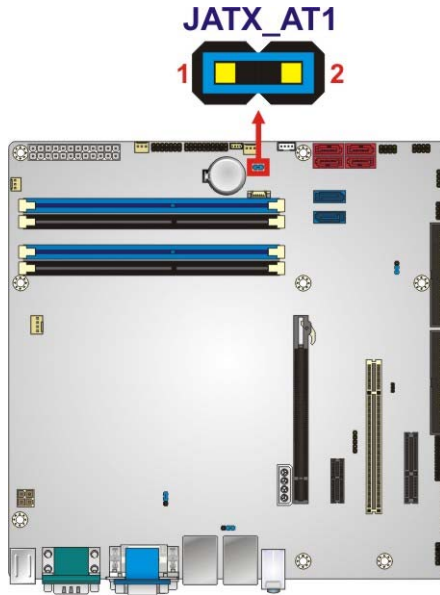

Figure 4-6: AT/ATX Power Mode Jumper Location
- Jumper Location:** See **Figure 4-6**